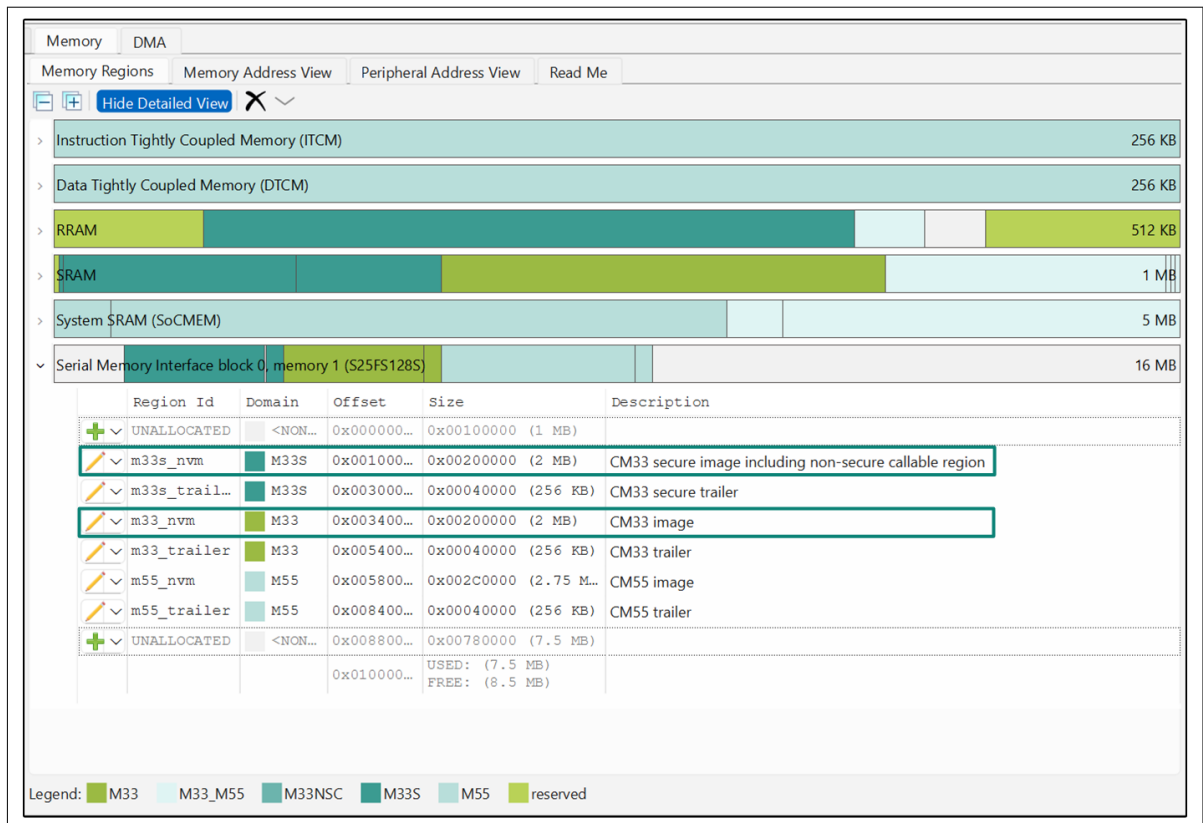

Figure 10 Default memory layout for external flash
2. Notice in Figure 10 that the external flash memory listed under Serial Memory Interface Block 0 (SMIF0) allocates **2 MB** for the CM33 secure image (memory region m33_s_nvm) and **2 MB** for the CM33 non-secure image (memory region m33_nvm). To achieve the desired memory sizes, we will adjust the offset and size of these memory regions